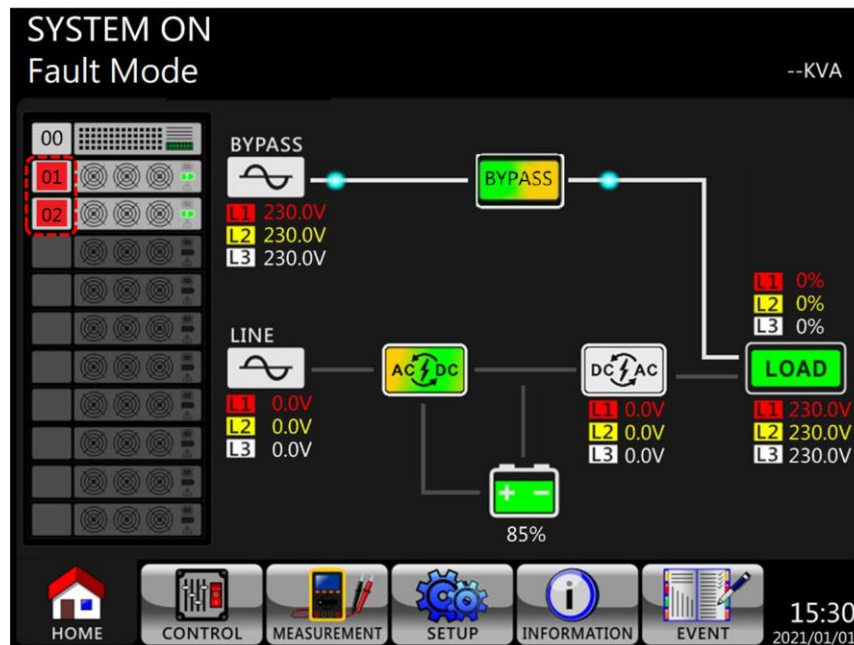

Figure 7-1 The screen of the Power Module in Fault Mode
1. If any fault occurs on modules, the background color representing the module ID will change from white to red as shown in Figure 7-1. The fault information is shown on event page. At this time, the inverter with fault mode is turned off and also cut off output. It will stop running. Then, go to step 4 directly.